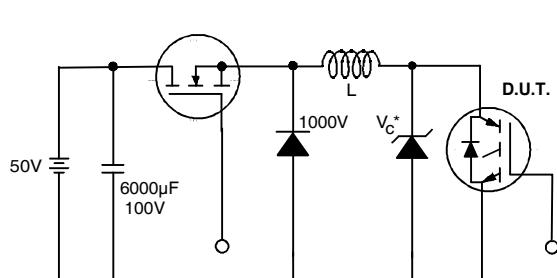

Figure 19. Clamped Inductive Load Test Circuit
- ② $V_{CC}=80\% (V_{CES})$, $V_{GE}=20V$, $L=10\mu H$, $R_G = 50\Omega$ (figure 19)
- ③ Pulse width $\leq 80\mu s$; duty factor $\leq 0.1\%$.
- ④ Pulse width $5.0\mu s$, single shot.